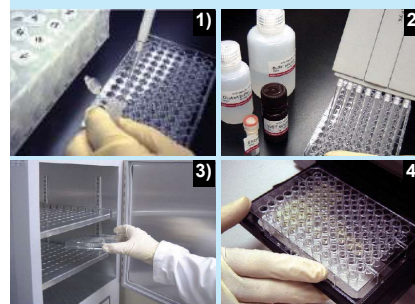

Fig. 4 Assay procedure
3. General Protocol (refer to Table 1, Fig. 4 and Fig. 5)